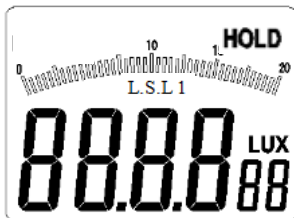

Fig. 3-1-4A
1. Give a short press on the key "HOLD/ZERO" and the word "HOLD" appears on the upper left of the LCD screen (as shown in Fig.3-1-4A). At this moment, the meter will enter data hold mode;